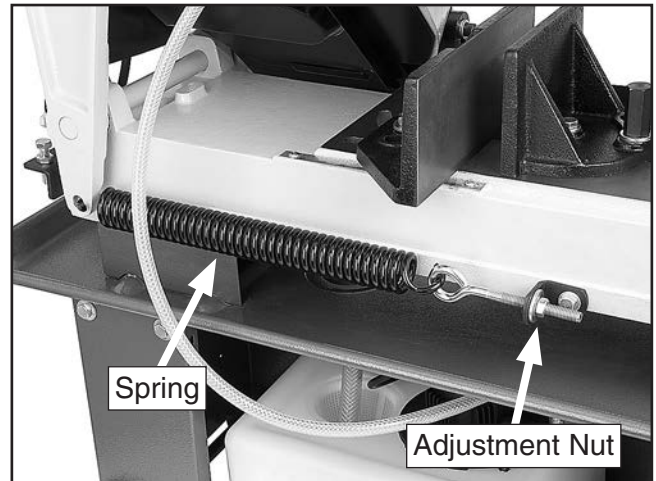

Figure 42. Location of adjustment nut.
2. Adjust feed pressure tension spring by rotating adjustment nut (see **Figure 42**). Tighten enough to remove play but not enough to apply tension to spring.